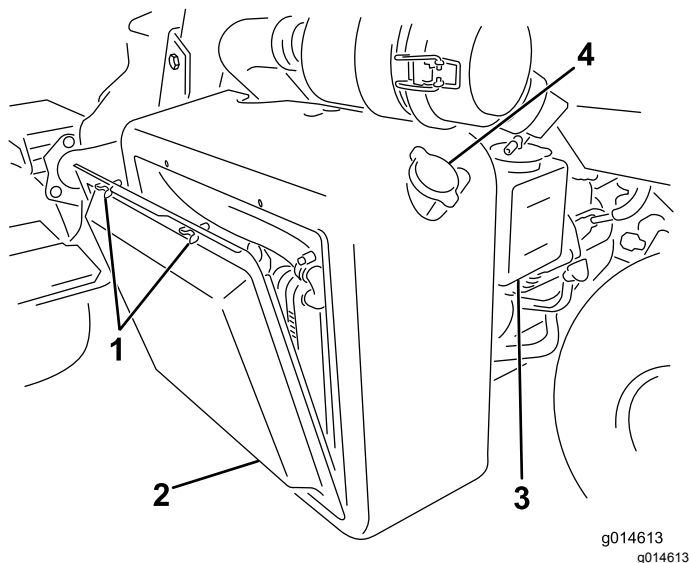
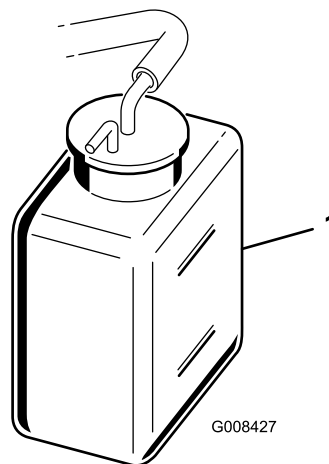

Figure 37
Figure 38
1. Remove the radiator screen (Figure 37).
2. Check the coolant level (Figure 37 and Figure 38).